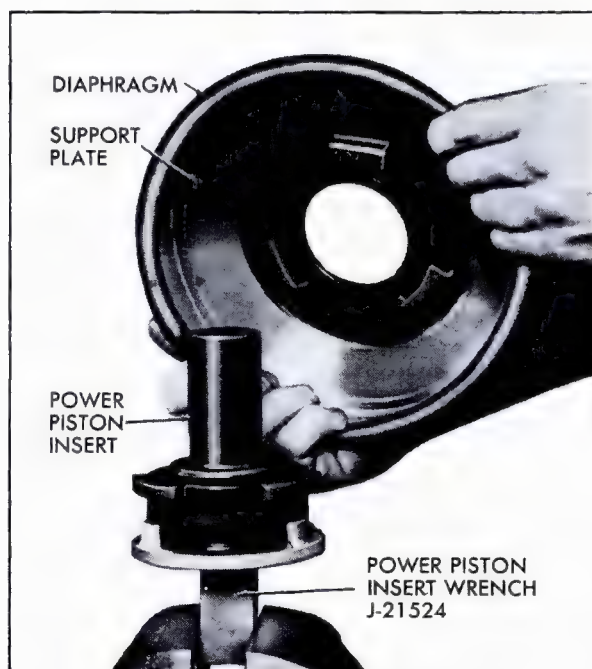

Fig. 5-24 Removing Power Piston Insert
19. Place square shank of Power Piston Insert Wrench J-21524, in vise and position power piston assembly on wrench so that the three notches in power piston housing fit over ears of tool, Fig. 5-24.
20. Rotate support plate counterclockwise until support plate separates from power piston insert, Fig. 5-24.